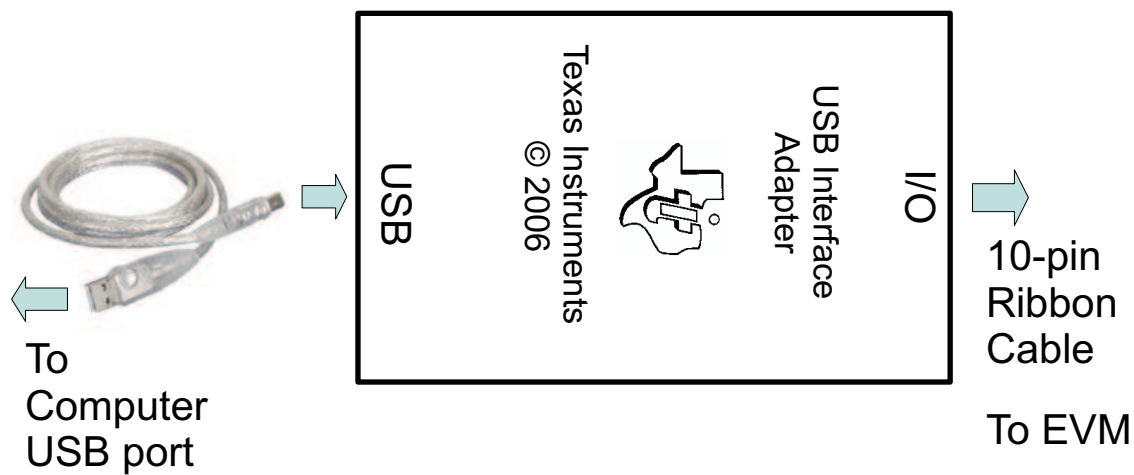

Figure 3. Connections of HPA172 Kit
Because the bq24260 and bq24261 have the watchdog timers enabled, it is recommended that you set the software's **Reset Watchdog Timer** to reset every 5 seconds. Otherwise, after 30 seconds of operation, the IC enters Default mode. Note that the 27-minute safety timer is not reset by this function and eventually times out if charging does not complete, unless the **Safety Timer Time Limit** is expanded or disabled via the GUI. One way to reset the safety timer is to allow the 30-second watchdog timer to expire. See Figure 3 in the data sheet (SLUSBA2) for more information about the timers.
7. Connect J17 to the HPA172 kit with the 10-pin ribbon cable. Connect the USB port of the HPA172 kit to the USB port of the computer. The connections are shown in Figure 3.